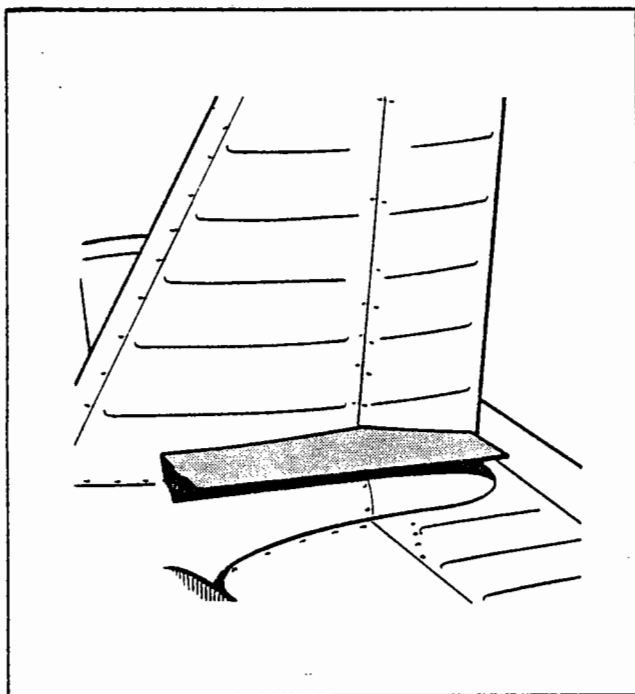

Figure 27-9. Rudder Rigging Tool
- B. With the rudder against its stop, place a rigging tool against the side of the rudder and vertical stabilizer as shown in Figure 27-9. (Ascertain that the tool is not contacting any rivets.) If no gap exists between the rigging tool and the surface of the rudder and vertical stabilizer, the rudder stop for one direction of travel is correct. (This tool may be fabricated from dimensions given in Chapter 91.)